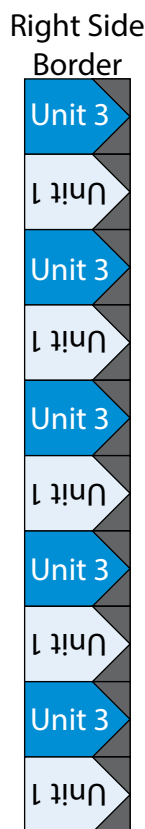

Fig. 11
7. Sew (5) Unit 3 rectangles and (5) Unit 1 rectangles together, alternating them from top to bottom, to make the Right Side Border (Fig. 11).